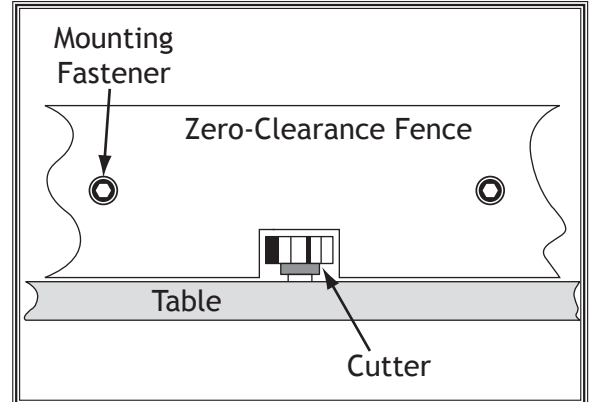

Figure 23. Example of a zero-clearance fence.
4. Cut an outline of the spindle and cutter from the center of the stock selected in **Step 3**, as illustrated in **Figure 23**.